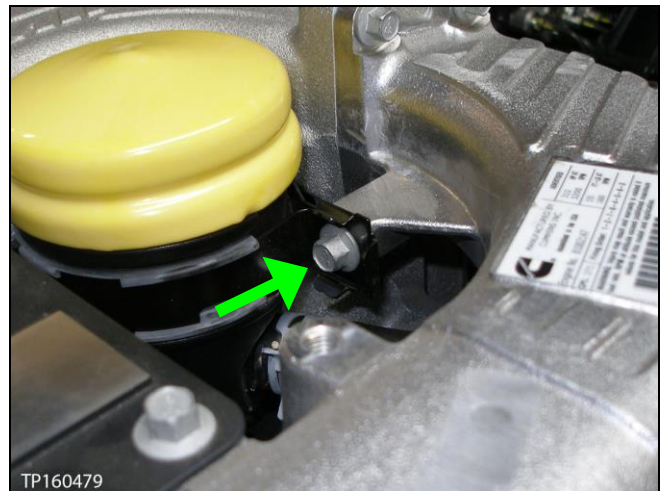

Figure 34
25. Remove the air inlet connection assembly bolt (see Figure 34).